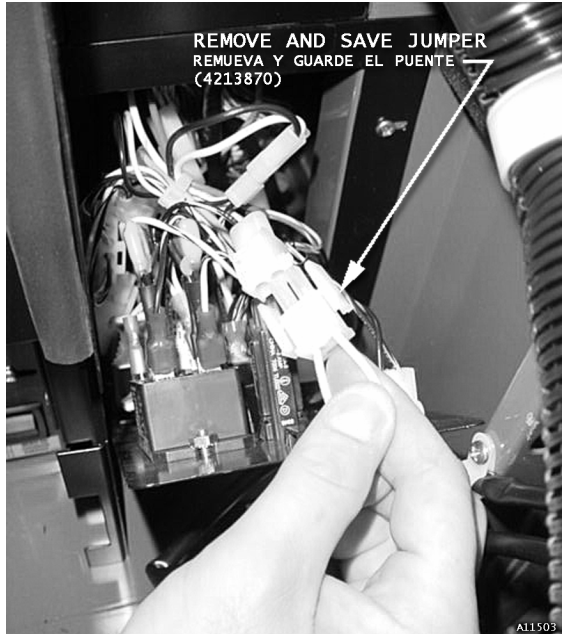

Figure 16. Anti-Condensation Jumper
2. Locate and remove the jumper. See Figure 16.